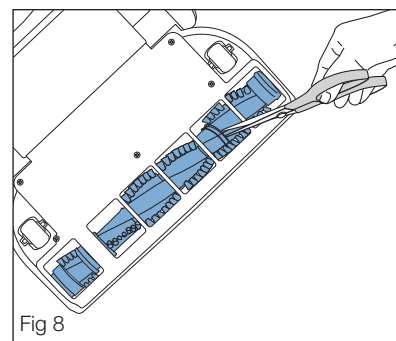

Fig 8
- Lay vacuum face down; remove any entwined long fibers or hair using scissors (Fig. 8).